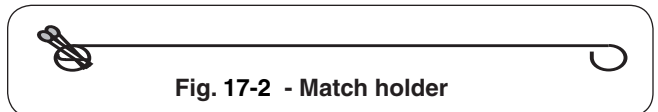

Fig. 17-2 - Match holder
2. Insert either a burning long-barrel butane lighter, a burning long-stem match, or a burning match held by a wire extension holder (Fig. 17-2) through the cooking grids to the burner (Fig. 17-3). For backburners, hold the flame against the perforated material of the backburner. For sideburners, hold the flame against the burner.